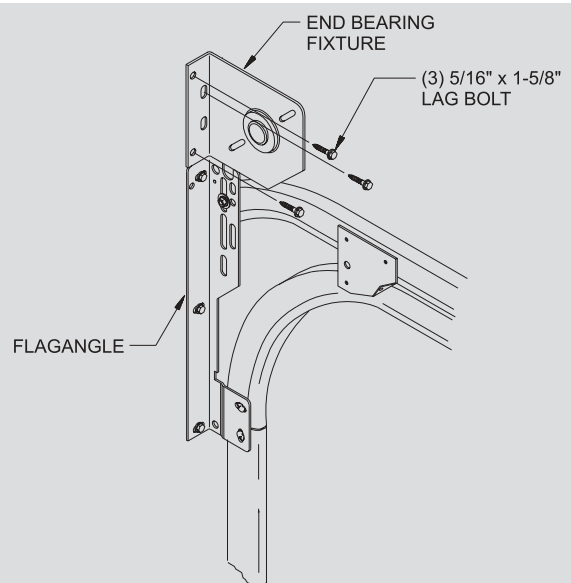

Fig. 10
Place the left and right end bearing fixtures above the flagangles as shown in **Fig. 10**. Attach the fixtures to the jamb using (3) 5/16" x 1-5/8" lag bolts.